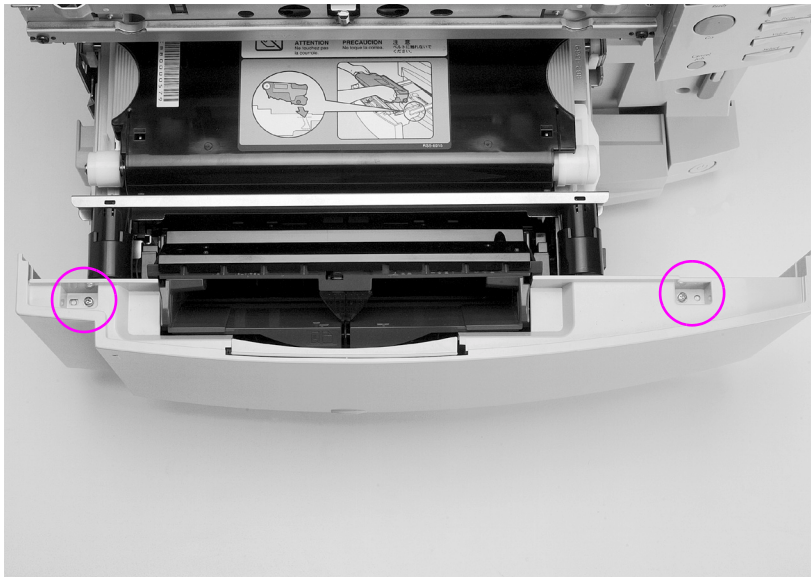

Figure 6-9 ITB drawer (middle drawer) cover removal and replacement
- 2 Remove the two screws in the top of the ITB drawer (middle drawer) cover as shown in Figure 6-9.